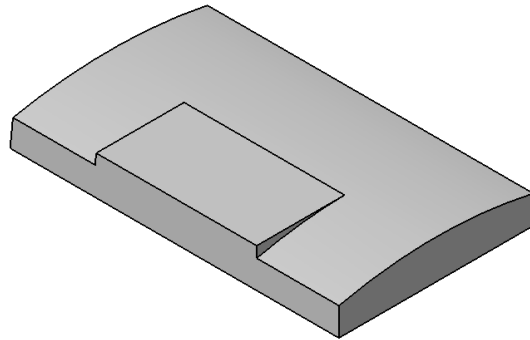

Figure 6-96 The model after drafting all the vertical faces
- c. Add the draft feature to all faces of the model except the upper and lower faces, refer to Figure 6-96.
4. Set the value of the **Angle** spinner to **3** and choose the **OK** button from the **Draft Definition** dialog box. The model, after creating the draft feature, is shown in Figure 6-96.